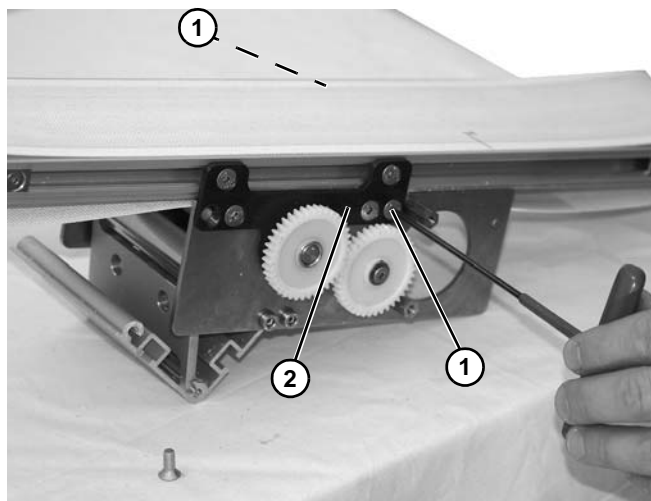

Figure 22
8. On opposite end, repeat procedure by removing one screw (**Figure 22, item 1**) on each side securing pinch drive guard to conveyor pinch plate (**Figure 22, item 2**).